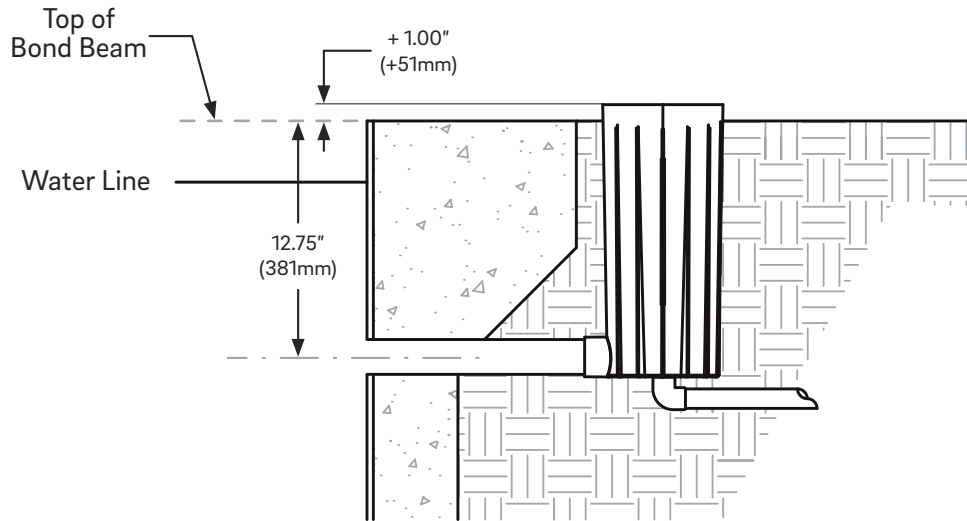

Figure 3
1. To ensure a proper height for poured concrete decks, the top of the QuikWaterLeveler canister should be set 1" **above** the top of the bond beam and as close to the form as possible. This setting will position with the 1.5" discharge line approximately 12.75" below the top of the form (Figure 3).